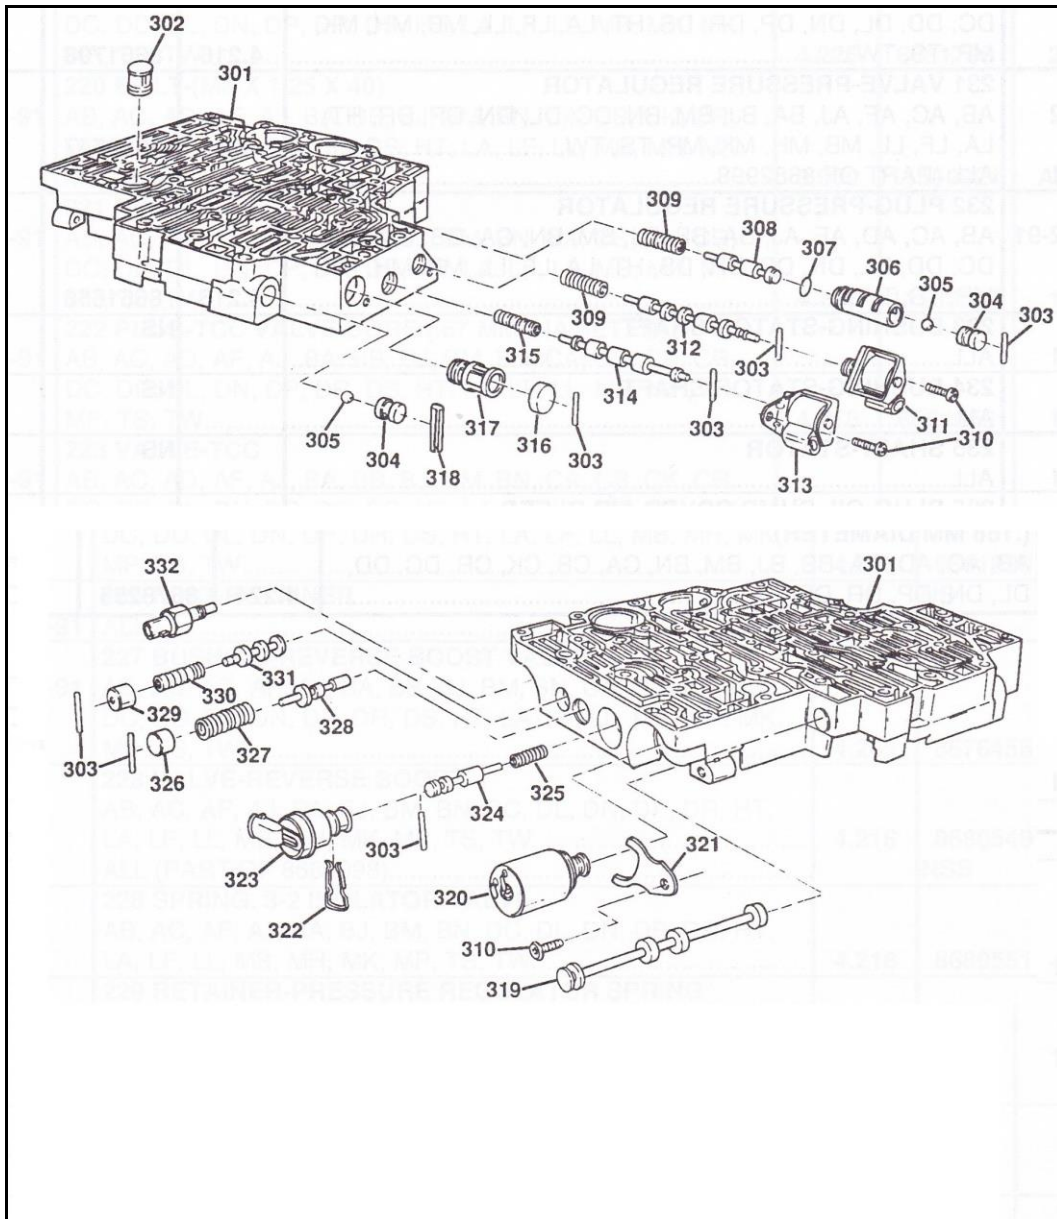

FIGURE 15
Remove the Coiled Spring Pin (303) and Accumulator Valve Bore Plug (329) from the valve body assembly. Replace the plug with the one supplied in this kit. Seat the O-ring in the plug by rolling it several times across a flat surface. Lubricate and install into valve body using the supplied bolt as an installation tool. Reinstall the coiled spring pin. See Figure 15.